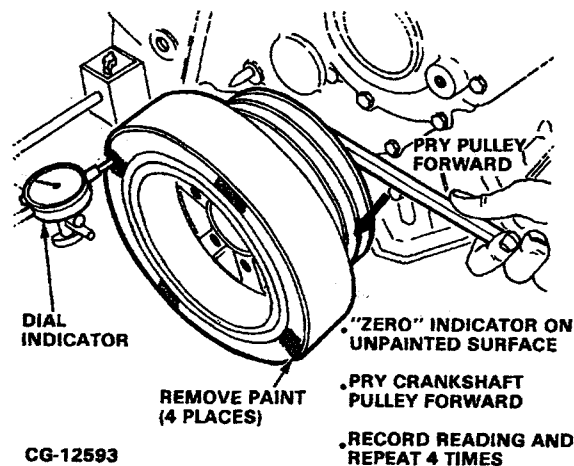

Figure 7.38. Check Vibration Damper for Wobble
5. Prior to vibration damper and pulley removal, inspect the vibration damper for wobble as follows: (Refer to Figure 7.38)